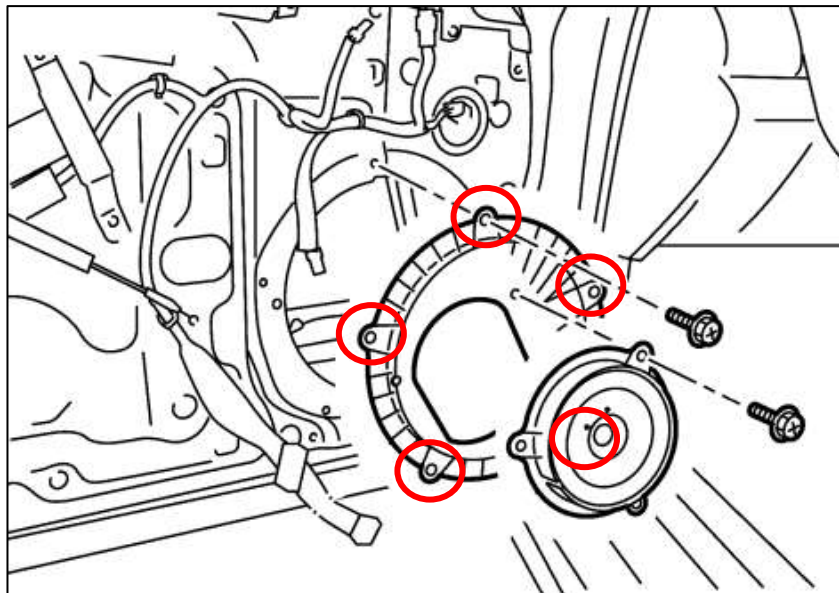

Figure 52
12. Disconnect the (5) five 10mm Bolts securing the Speaker to the Door. *Figure 52.*